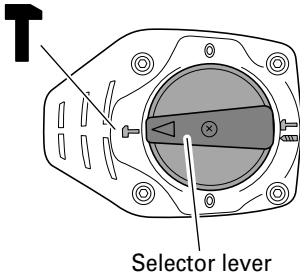

Fig. 8
- (1) Switching to "hammering"
- (b) Align ▲ of the selector lever and ↑ of the crank cover as illustrated in Fig. 8.